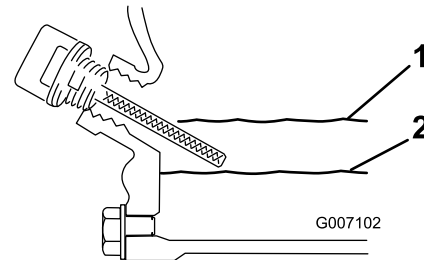

Figure 18
6. Pull the dipstick out and look at the end. There should be oil on the dipstick (Figure 18).